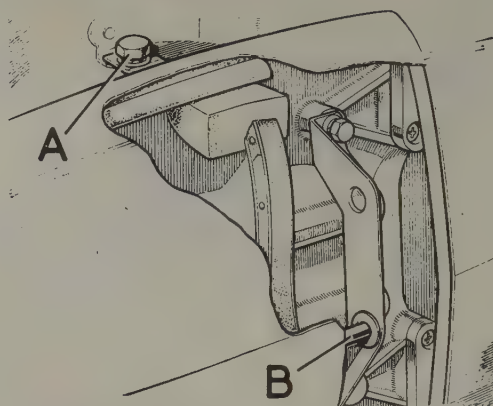

Fig. 12.39. Front wing attachment at rear end
- 4 Undo and remove the bolt, spring washer and flat washer "A" (Fig.12.39) that secure the rear top edge of the panel to the base unit. It will be seen that this bolt is also used to secure the hinge.